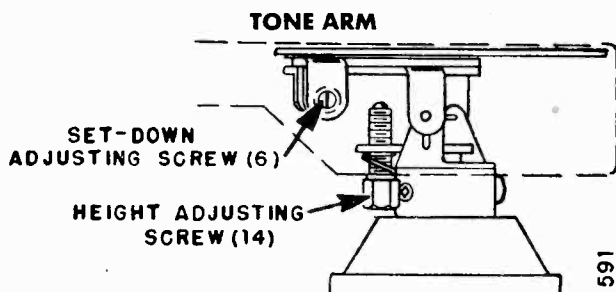

Figure 5. Set-Down and Height Adjustments.
Adjustment of the set-down point, is made by adjusting the set-down adjusting screw (6). See Figure 5. The tone arm will automatically set-down properly on 7-inch or 12-inch records if the set-down adjustment is made properly on a 10-inch record. The set-down adjusting screw is accessible through the hole in the right side of the tone arm. Turning this screw in moves the set-down point of the tone arm closer to the centerpost, and turning this screw out moves it away from the centerpost. Make this adjustment as follows:
1. Place the size and speed selector knob (26) in the "78-10" position.
This record changer is so designed that the tone arm will clear the bottom record of a stack to be played if the needle is  $\frac{1}{4}$ " above the changer pan when the changer is not in change cycle and  $1\frac{3}{8}$ " above the turntable during change cycle. See Figure 6. With proper tone arm height setting, the tone arm will lift high enough during change cycle to clear a complete stack of records of any type on the turntable. This stack may consist of as many records as specified on page 1. Make this adjustment by placing the size and speed selector knob (26) in the "78-10" position, check the distance between the needle and the changer pan with the changer out of change cycle. If the needle is more than  $\frac{1}{4}$ " above the pan, turn the lift adjustment screw (14, Figure 5) counterclockwise; if less, turn clockwise.